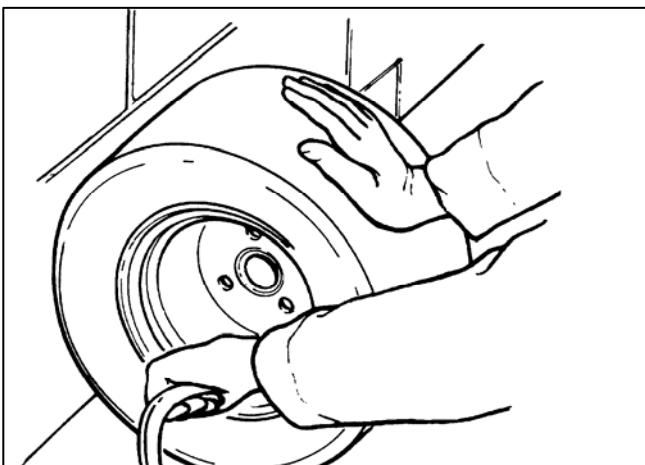

Figure 6-3
- Apply tire mounting lubricant to tire bead. With valve stem side up, carefully start upper bead over wheel flange with a flat tire tool. When top bead is free from wheel, pry lower bead over wheel flange (Figure 6-3).